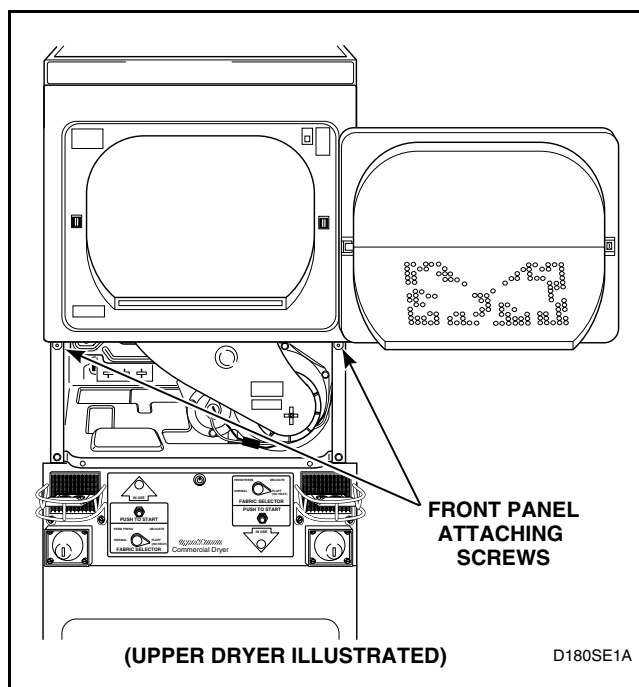

Figure 11
- LOWER DRYER** - Remove two screws holding bottom tabs on front panel to dryer cabinet. Refer to *Figure 11*. Swing bottom of front panel away from dryer to disengage hold-down clips and guide lugs from control cabinet.